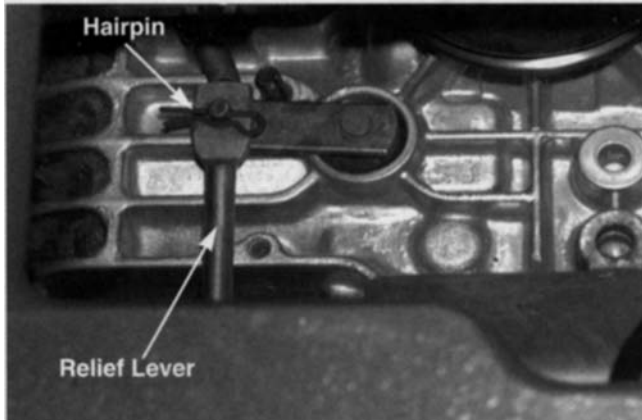

Figure 6-141.
19. Remove the hairpin securing the hydrostatic relief lever to the hydrostatic transmission. See figures 6-141 and 6-142.
20. Set the hydrostatic relief lever aside. See figures 6-141 and 6-142.